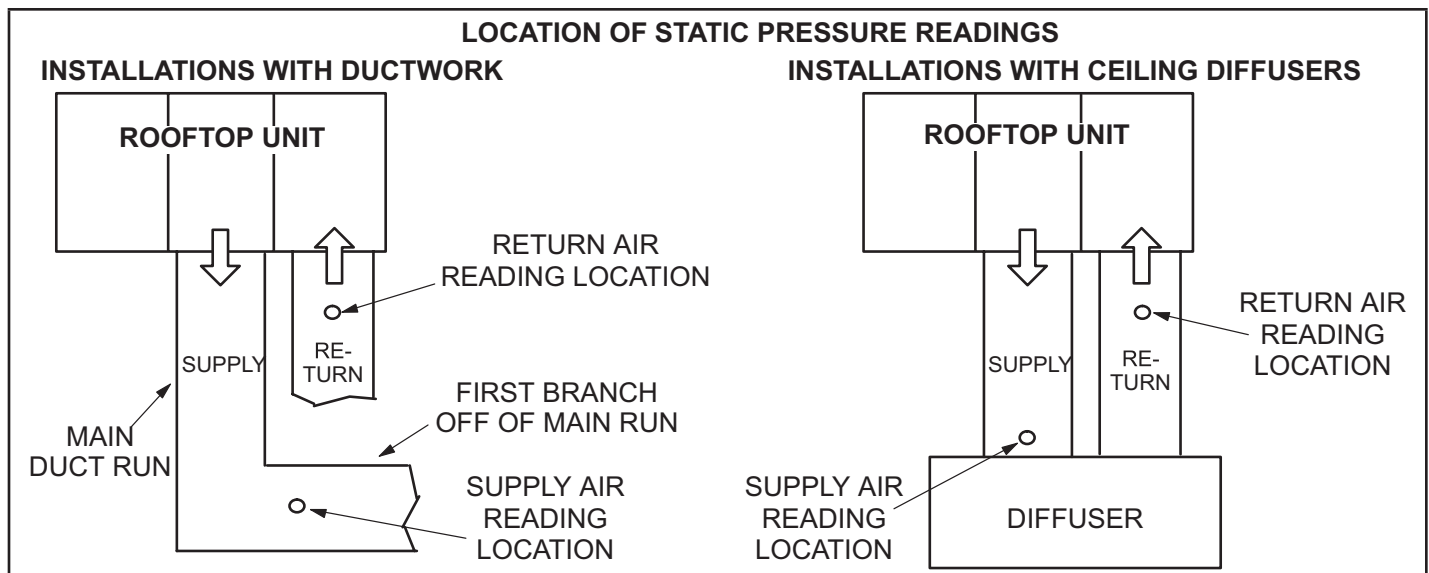

FIGURE 19
- 4 - The blower RPM can be adjusted at the motor pulley. Loosen Allen screw and turn adjustable pulley clockwise to increase CFM. Turn counterclockwise to decrease CFM. See FIGURE 19. Tighten Allen screw after adjustment. Do not exceed minimum and maximum number of pulley turns as shown in TABLE 6.